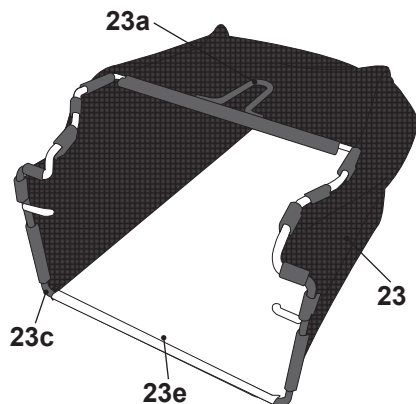

Fig. 5
1. The grass catcher (23) was already assembled, but make sure that the grass catcher rubber clips (23e) was secured on the supporting rod (23c) (Fig. 5) before use.